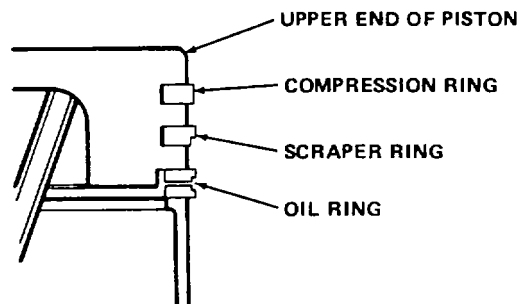

Figure 6-27. Top of Piston
- (2) Using piston ring expander, install piston rings onto piston. (See Figure 6-27) Install in the following order:
The word "top" on the scraper ring and compression ring should be closest to the top of the piston. (See Figure 6-27).